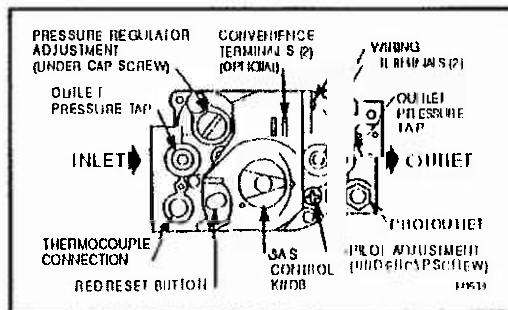

Fig. 4—Top view of gas control
6. Connect pipe to gas control inlet and outlet. Use wrench on the square ends of the gas control. If an adapter is used, place wrench on adapter rather than gas control. Refer to Figs. 4 and 5.